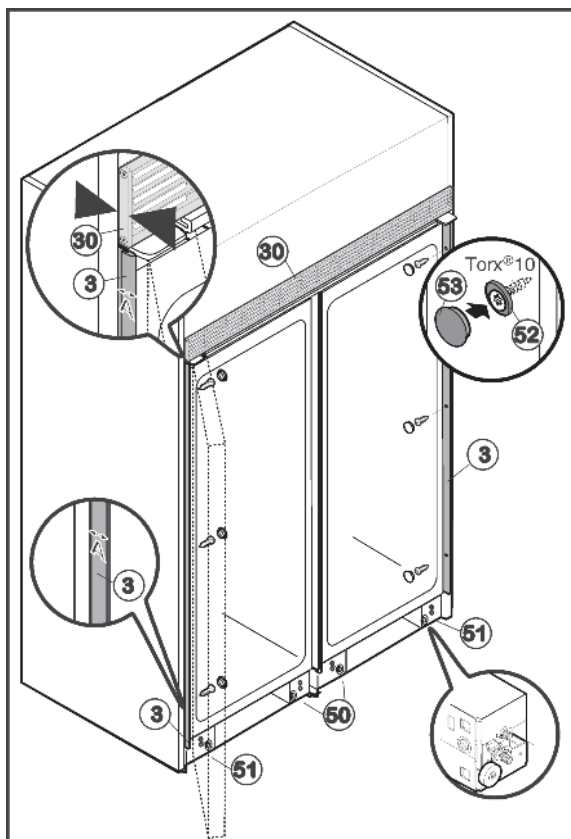

Fig. 50
- Push the appliance into the recess until the rear edge of the ventilation grille Fig. 50 (30) is flush with the front edge of the side wall of the cabinet.
- Completely screw in the two centre roller bases Fig. 50 (50) at the front and rear such that the appliance is only resting on the outer roller bases. This enables the two appliances connected to each other to be aligned jointly like a single appliance.
- Align appliance inside the recess by adjusting the outer roller bases Fig. 50 (51) and using a spirit level.
- At the top and bottom of the recess check the gap **A** between the front edge of the installation strip Fig. 50 (3) and the front edge of the side wall of the unit. It must be 1/2 " (13 mm). Realign the appliance in the recess if required.
- Secure appliance inside the recess using three screws Fig. 50 (52) hinge side of each appliance. Do not scratch the side installation strip Fig. 50 (3) when doing so.
- Place cover caps Fig. 50 (53) over the screws.
- Being careful not to affect the level, lower the levelling wheels in the center roller bases Fig. 50 (50) until they are resting on the floor.
- Fit lower ventilation grille Fig. 50 (54) flush with the floor such that the rubber lip is at the top. It is held in place via magnets.